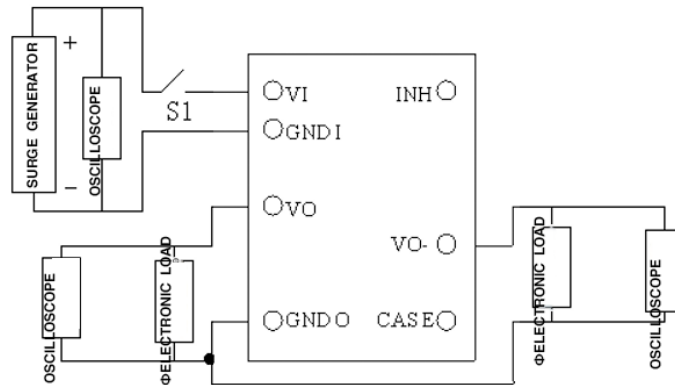

Figure B.1. Surge voltage test fixture connection diagram
- Set the switch S1 shown in Figure B.1 to the ON position;